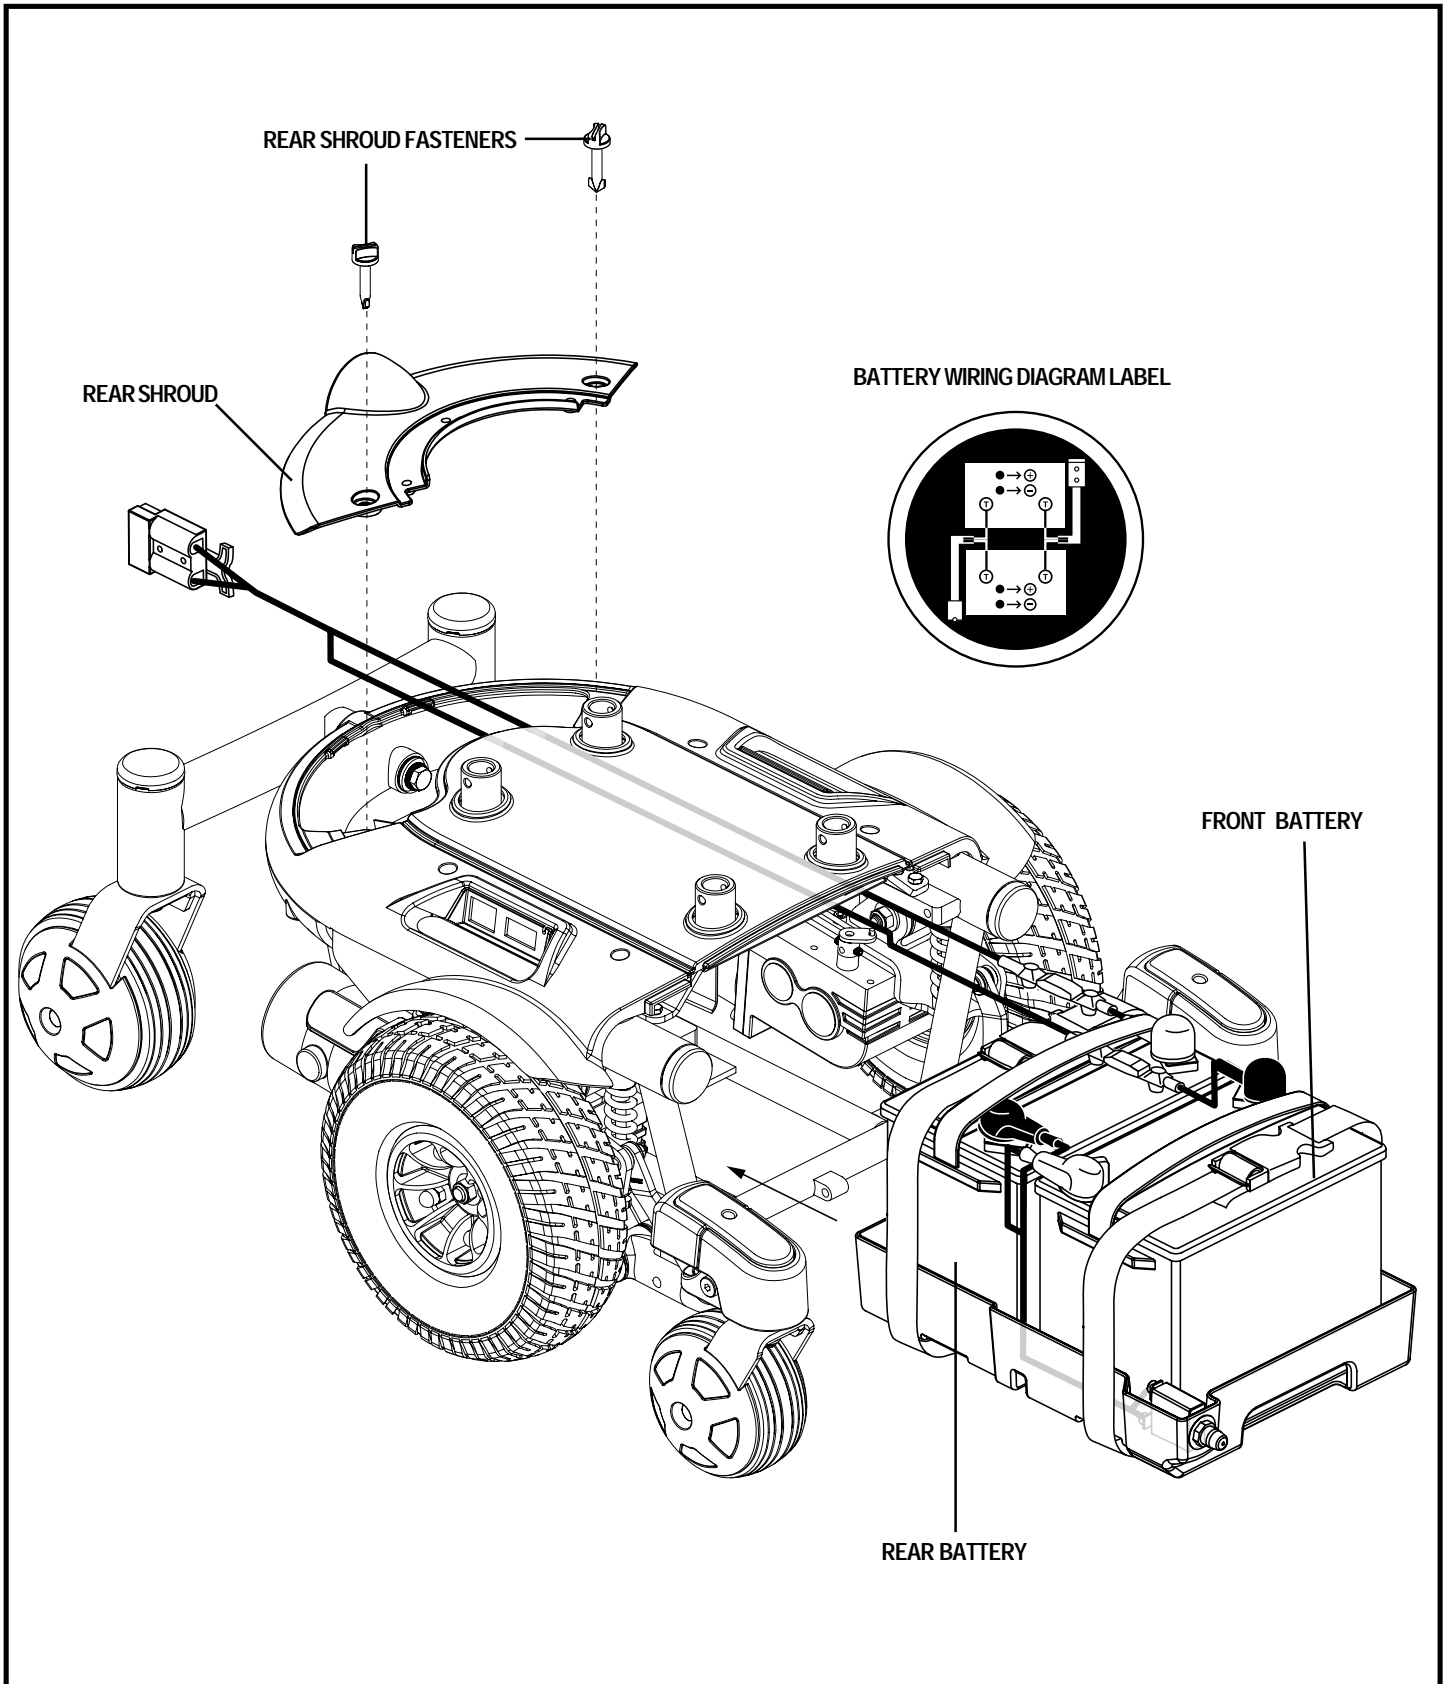

Figure 30. Battery Installation
3. Loosen the rear shroud fasteners. See figure 30.